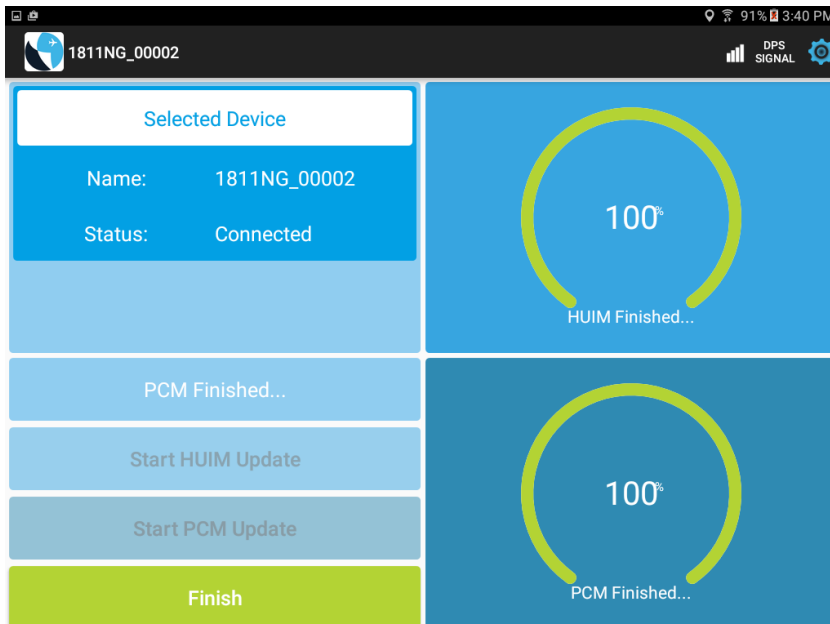

Figure E. 7 HUIM and PCM Completed Update Screen
- g) Touch “Finish” (Fig. E. 7).